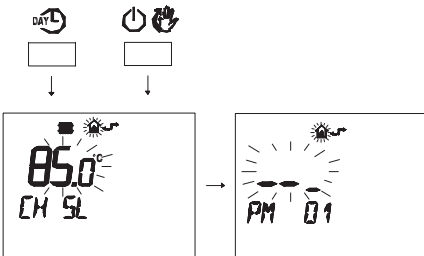

Fig. 7.41
- Press buttons **DAY** and **POWER** at the same time to enter transparent programming (Fig. 7.41).